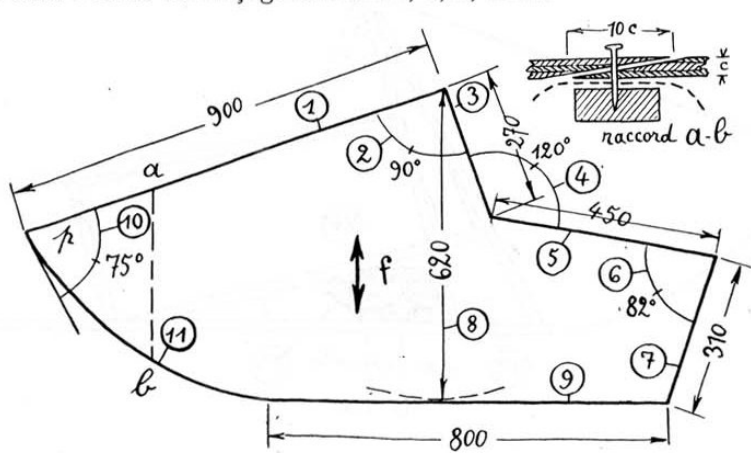

Figure 3.2: Outline of fuselage side
On a piece of 3mm plywood, lay out the first side according to the dimensions in Figure 3.2. The direction of the grain is indicated by the arrows *f*. Proceed according to the numbered steps: ①, ②, ③, etc.